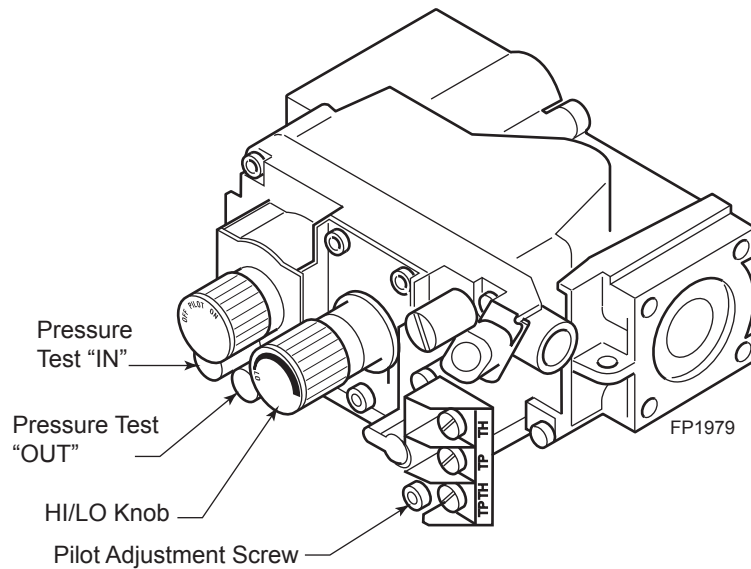

Figure 16 -
5. To check gas pressures at valve, turn captured screw counterclockwise 2 or 3 turns and then place tubing to pressure gauge over test point. Turn unit to high. *Figure 16.* After taking pressure reading, be sure and turn captured screw clockwise firmly to reseal. Do not over torque. Check test points for gas leaks.